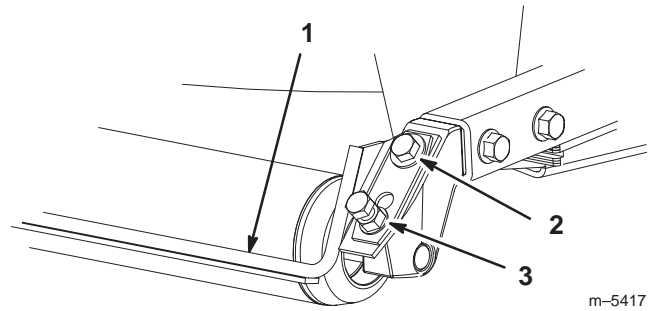

Figure 4
- Loosen the top 2 mounting screws and the lower 2 flange nuts (Fig. 4).